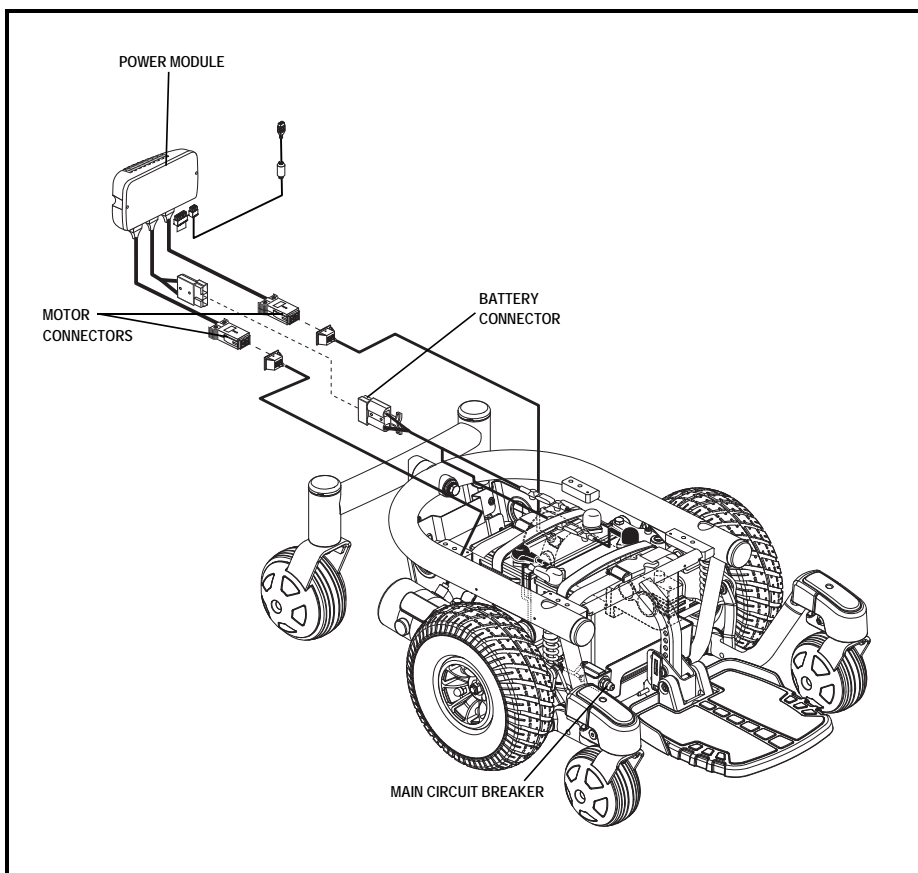

Figure 7. Quantum 610 Series Electrical Components
The electrical components are located inside the power base. The main circuit breaker is located on the front of the battery tray. The controller connector(s) are located inside the power base. See figure 7.
6. Plug the controller connector into the power base. **See figure 7.**
3. Disconnect the controller connector(s) from the power base. **See figure 7.**